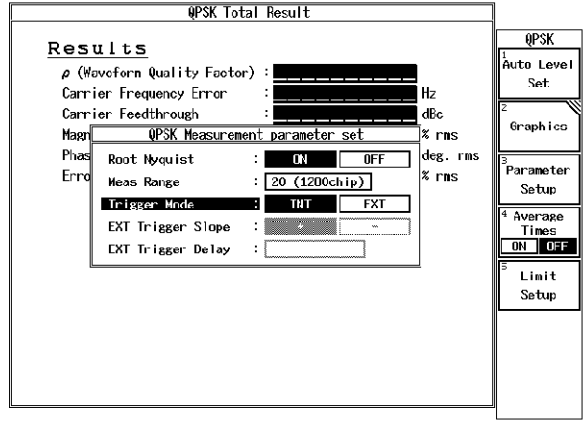

Figure 6-16 Setting of Parameter for Simplified Performance Check
3. On the R3267/73, set measurement parameter as shown Figure 6-16.